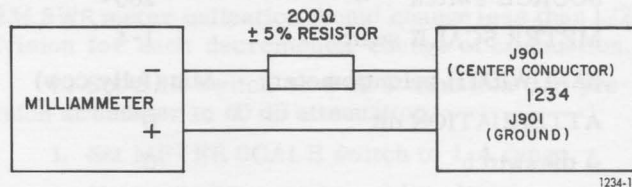

Figure 5-3. Bolometer bias-current test setup.
a. Connect milliammeter and a 200-Ω resistor in series with bolometer bias-current supply in accordance with setup and instructions of Figure 5-3.